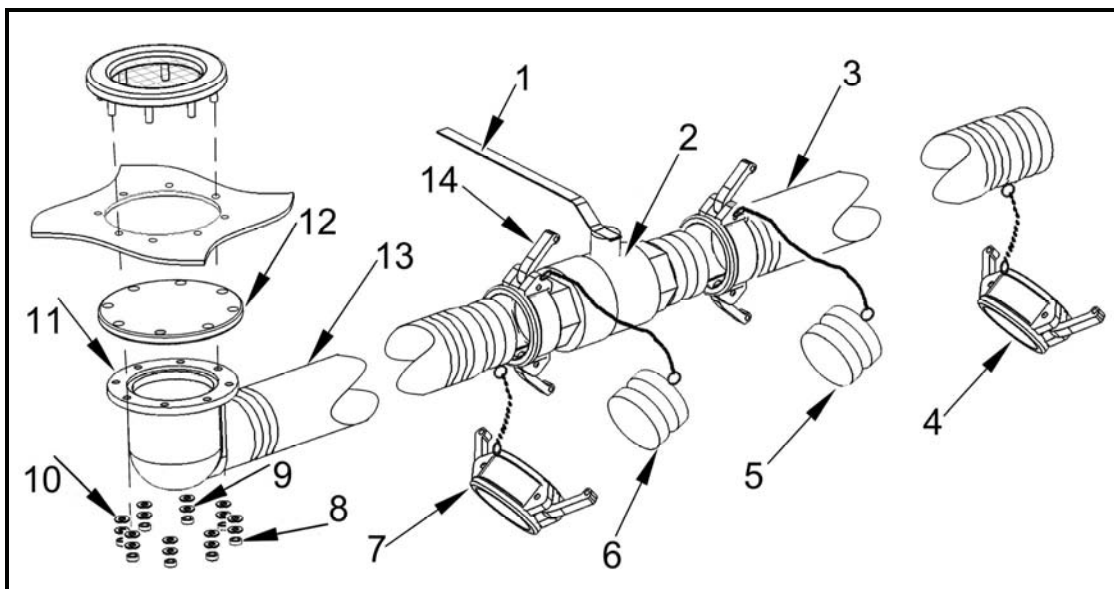

Figure 16. Berm liner Drain and Hose Assembly.
1. Lift and fold-over each corner as required to expose the berm liner drain flange assembly underneath (Figure 16, Item 12).
2. Remove the drain assembly blind flange (Figure 16, Item 12) by removing the eight 3/8 inch nuts (Figure 16, Item 8), lock washers (Figure 16, Item 9), and washers (Figure 16, Item 10).
4. Locate the 20 foot drain hose assembly with the drain dome fitting (Figure 16, Item 13).
6. Position the drain dome fitting (Figure 16, Item 11) where the blind flange (Figure 16, Item 12) was removed. Rotate the drain dome fitting such that the attached drain hose (Figure 16, Item 13) extends in the proper direction away from the center of the berm liner.
8. Secure the dome fitting (Figure 16, Item 11) with the eight 3/8 inch nuts (Figure 16, Item 8), lock washers (Figure 16, Item 9), and washers (Figure 16, Item 10).
9. Torque nuts (Figure 16, Item 8) to 40 ft-lb (see WP 0028 00).
10. Save the drain assembly blind flange (Figure 16, Item 12) for reuse in redeployment.
11. Locate the drain ball valve assembly (Figure 16, Item 2)
12. Move the cam lock levers on the hose assembly dust cap (Figure 16, Item 7) to the outward position and remove dust cap from end of hose.
13. Move the cam lock levers on the valve assembly (Figure 16, Item 14) to the outward position and remove dust plug (Figure 16, Item 6) from the valve assembly.
15. Insert the hose assembly (Figure 16, Item 13) into the valve assembly (Figure 16, Item 2).
17. Rotate Ball Valve lever (Figure 16, Item 1) to the closed position.
18. Locate the other 20 foot drain hose assembly with the male and female cam-lock fittings (Figure 16, Item 3).
19. Move the cam lock levers on the hose assembly dust plug (Figure 16, Item 5) to the outward position and remove dust plug from end of hose.
20. Move the cam lock levers on the hose assembly dust cap (Figure 16, Item 4) to the outward position and remove dust cap from end of hose.
22. Insert the hose assembly (Figure 16, Item 3) onto the valve assembly (Figure 16, Item 2).